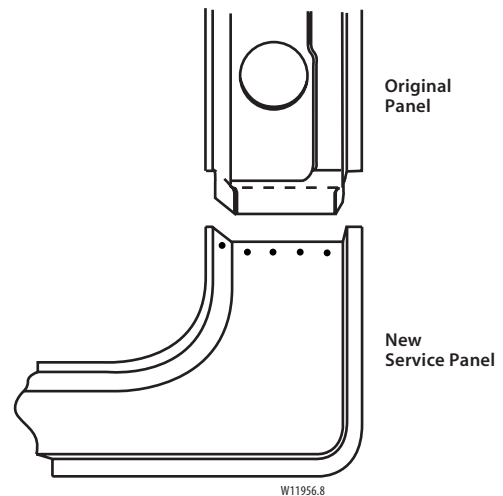

Figure 6-8:
2. Drill 8mm ($\frac{5}{16}$ inches) plug weld holes as necessary in the locations noted from the original panel. Also drill plug weld holes along the hinge pillar sectioning cut of the service part. These should be located approximately 15mm ($\frac{9}{16}$ inch) from the edge of the cut (figure 6-8).